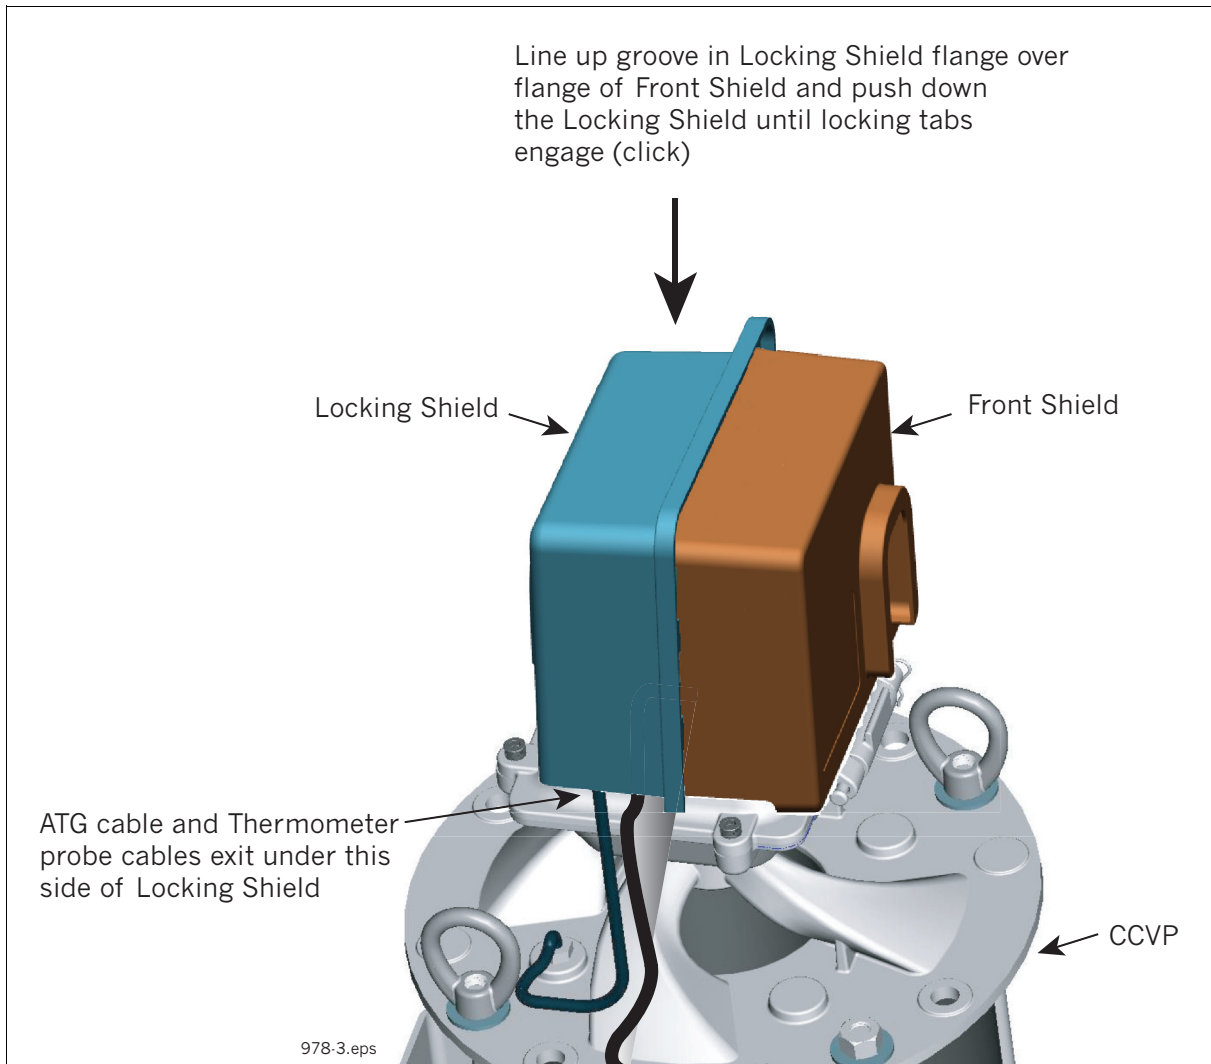

Figure 3. Installed rain shield
3. Align groove in flange of Locking Shield (333098-001) over flange of front shield and slide the Locking Shield onto the Front Shield's flange until locking tabs engage (see Figure 3). ATG and Thermometer probe cables exit Locking Shield as shown in Figure 3.